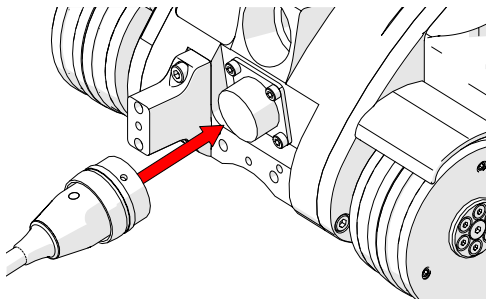

Fig. 70 - Connect to umbilical
1. Align the pins of the umbilical to the connector at the rear of the **SKOOT** (Fig. 70).